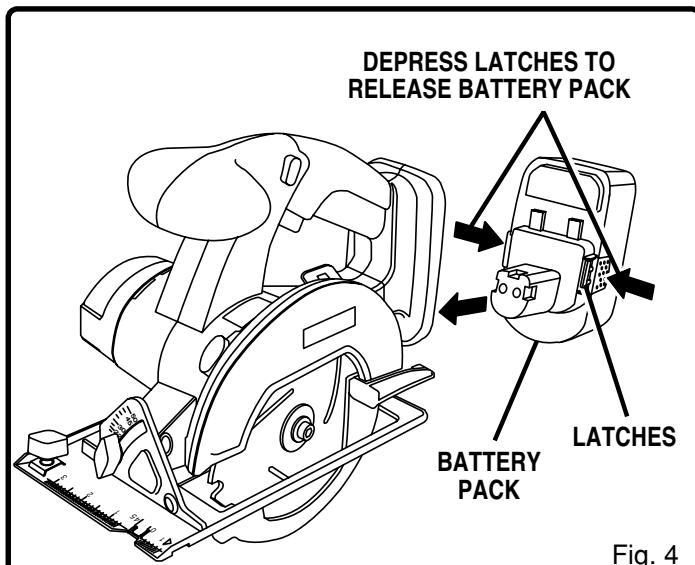

Fig. 4
- Locate latches on end of battery pack and depress to release battery pack from your saw. *See Figure 4.*
See Figure 4.